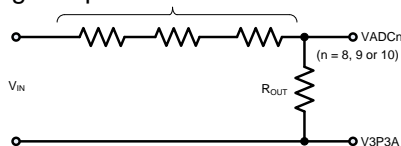
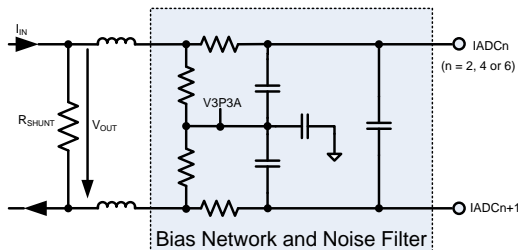
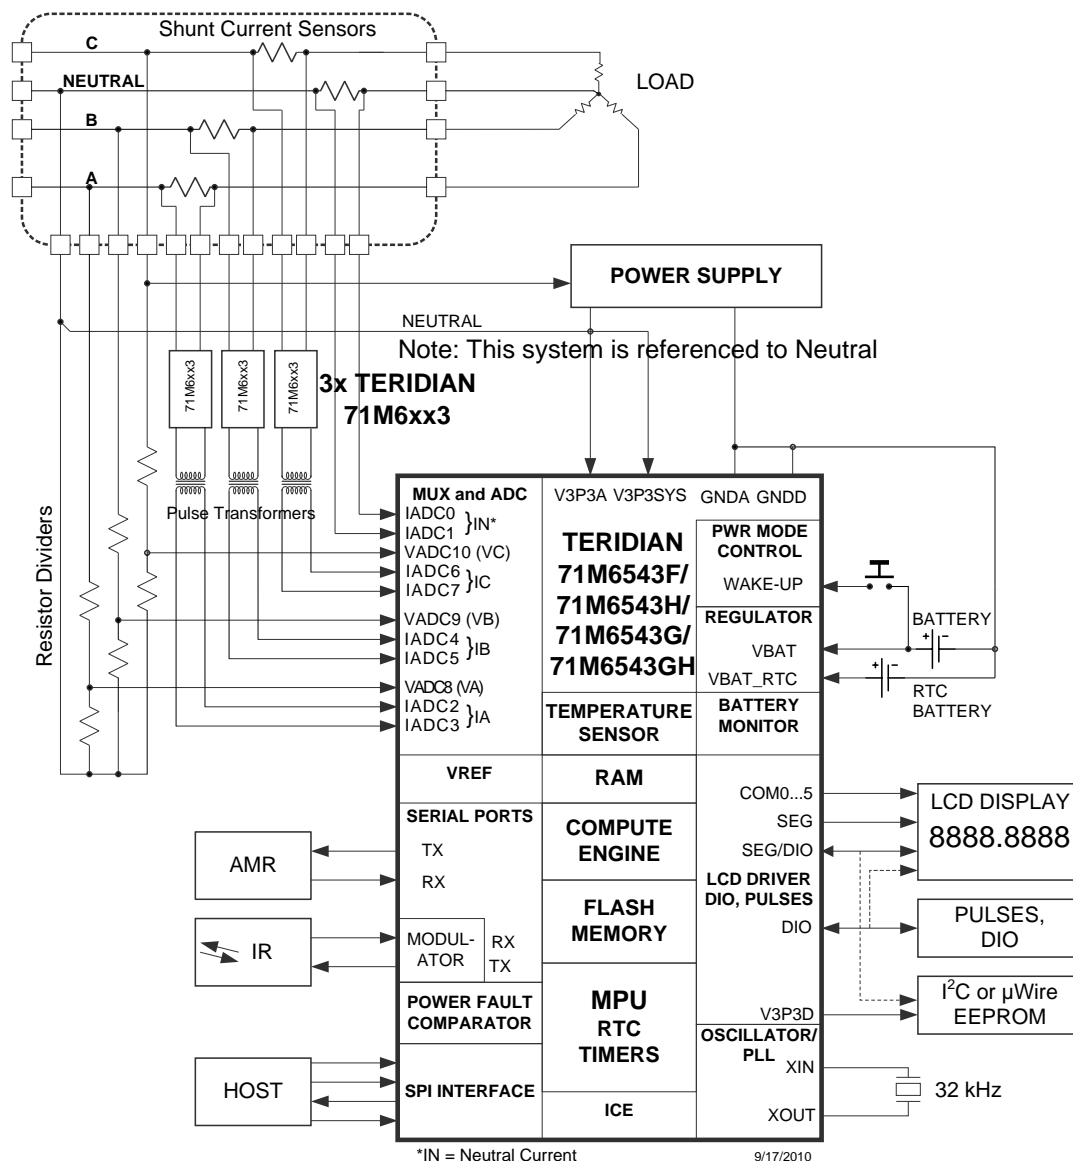
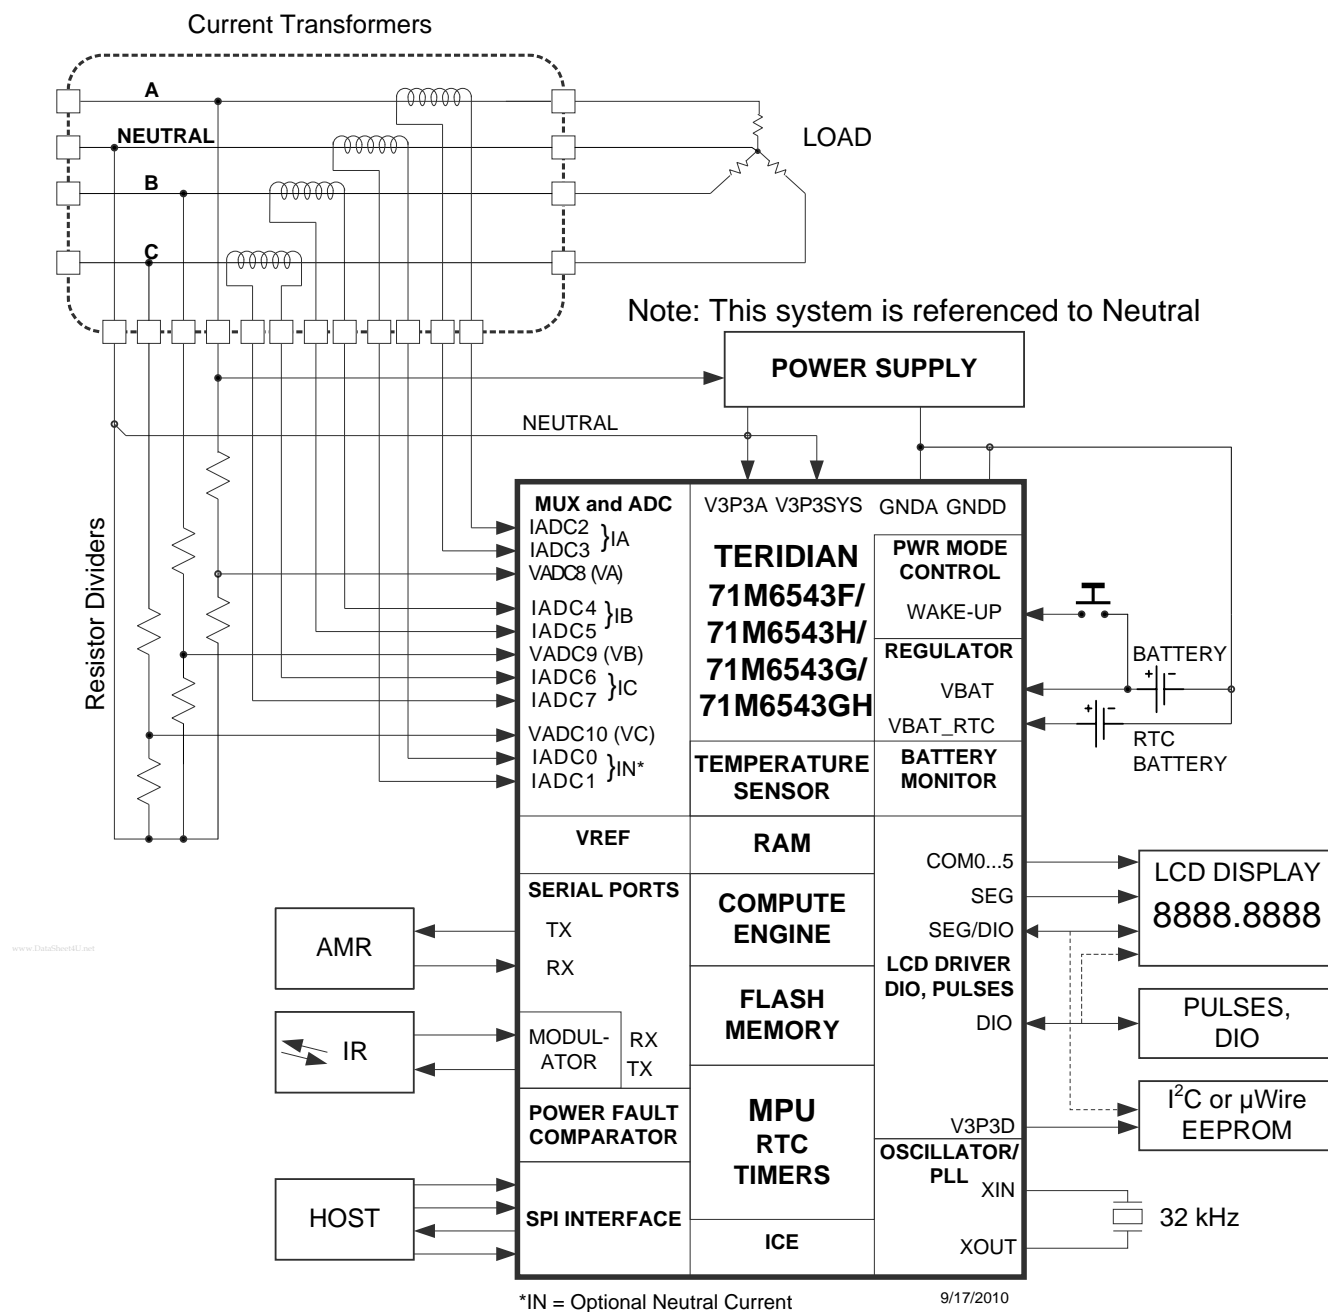

Figure 27: Resistive Voltage Divider (Voltage Sensing)
Figure 30: Differential Resistive Shunt Connections (Current Sensing)
Figure 31: System Using Three-Remotes and One-Local (Neutral) Sensor
Figure 32. System Using Current Transformers
Figure 27 through Figure 30 show voltage-sensing resistive dividers, current-sensing current transformers (CTs) and current-sensing resistive shunts and how they are connected to the voltage and current inputs of the 71M6543. All input signals to the 71M6543 sensor inputs are voltage signals providing a scaled representation of either a sensed voltage or current.
Figure 31 shows a typical connection for current shunt sensors; using the 71M6xx3 (polyphase) isolated sensors. Note that one shunt current sensor is connected without isolation, which is the neutral current sensor in this example (connected to pins IADC0-IADC1). Each 71M6xx3 device is electrically isolated by a low-cost pulse transformer. The 71M6543 current sensor inputs must be configured for remote sensor communications, as described in 2.2.8 71M6xx3 Isolated Sensor Interface (page 22). Flexible remapping using the I/O RAM registers *MUXn_SEL[3:0]* allows the sequence of analog input pins to be different from the standard configuration (a corresponding CE code must be used). See Figure 2 for the AFE configuration corresponding to Figure 31.
Figure 32 shows a polyphase system using four current transformers to support optional Neutral current sensing for anti-tamper purposes. The Neutral current sensing CT can be omitted if Neutral current sensing is not required. The system is referenced to Neutral (i.e., the Neutral rail is tied to V3P3A and V3P3SYS).
This section discusses metrology temperature compensation for the meter designs where current shunt sensors are used in conjunction with Teridian's 71M6xx3 remote isolated sensors, as shown in Figure 31.
Referring to Figure 31, the VADC8 (VA), VADC9 (VB) and VADC10 (VC) voltage sensors are always directly connected to the 71M6543. Thus, the precision of the voltage sensors is primarily affected by VREF in the 71M6543. The temperature coefficient of the resistors used to implement the voltage dividers for the voltage sensors (see Figure 27) determine the behavior of the voltage division ratio with respect to temperature. It is recommended to use resistors with low temperature coefficients, while forming the entire voltage divider using resistors belonging to the same technology family, in order to minimize the temperature dependency of the voltage division ratio. The resistors must also have suitable voltage ratings.
Table 67 shows the five $GAIN_ADJ_x$ equation output storage locations and the voltage or current sensor channels for which they compensate for the 1 Local / 3 Remote configuration shown in Figure 31.
Table 67: $GAIN_ADJ_n$ Compensation Channels (Figure 2, Figure 31, Table 1)
This section discusses metrology temperature compensation for meter designs where Current Transformer (CT) sensors are used, as shown in Figure 32.
Referring to Figure 32, the VADC8 (VA), VADC9 (VB) and VADC10 (VC) voltage sensors are directly connected to the 71M6543. Thus, the precision of the voltage sensors is primarily affected by VREF in the 71M6543. The temperature coefficient of the resistors used to implement the voltage dividers for the voltage sensors (see Figure 27) determine the behavior of the voltage division ratio with respect to temperature. It is recommended to use resistors with low temperature coefficients, while forming the entire voltage divider using resistors belonging to the same technology family, in order to minimize the temperature dependency of the voltage division ratio. The resistors must also have suitable voltage ratings.
Table 68: $GAIN_ADJ_x$ Compensation Channels (Figure 3, Figure 32, Table 2)